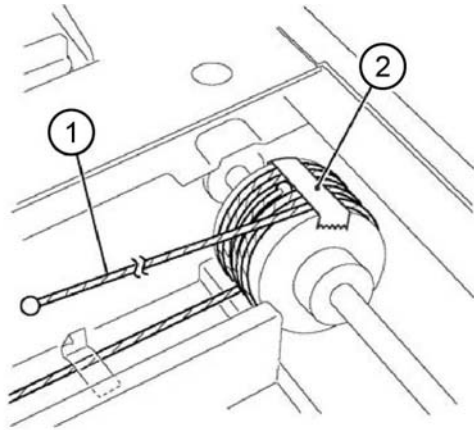

Figure 8 Capstan winding (2)
3. Wind the end-ball end of the carriage cable around the capstan, Figure 8:
- a. Wind the cable (1) 3 turns.
- b. Use adhesive tape (2) to affix the cable to the capstan.